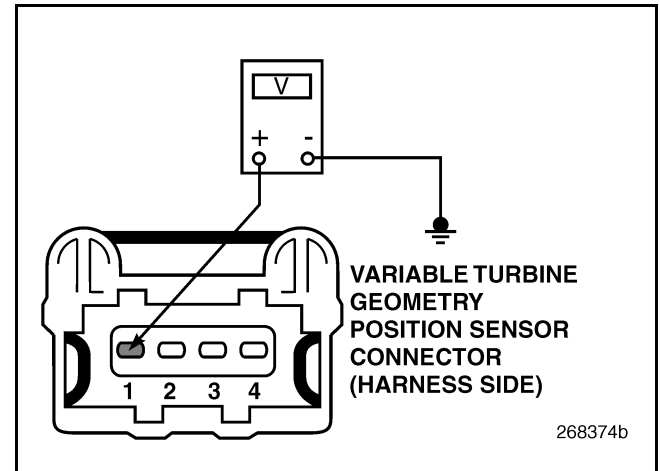

Figure 495
5. Measure the voltage between VTG Position Sensor harness connector pin 1 and a good ground (see Figure 495).